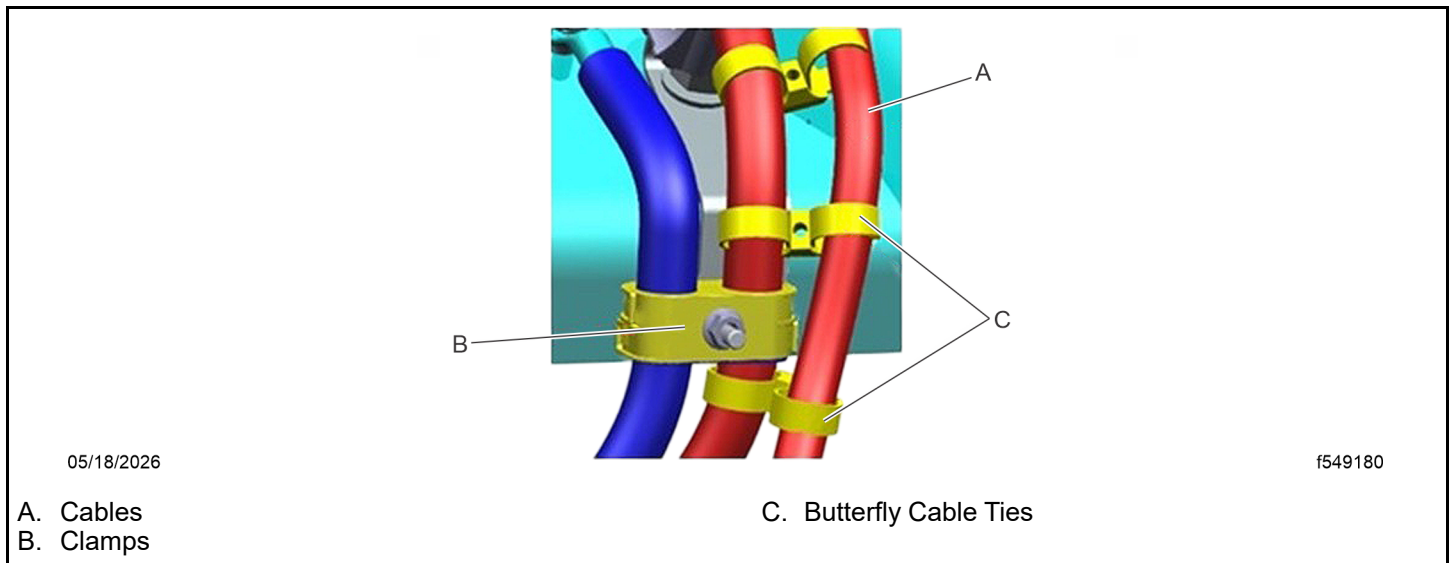

Fig 71, Butterfly Cable Ties Around the Cable Clamps
43. Install the upper and lower cable clamps on the isolator frame bracket. To prevent cables (A) from rubbing, secure any cables routed on the outside cable clamps (B) using butterfly cable ties (C) (TYCDCT110HIR). See Fig. Fig. 71.